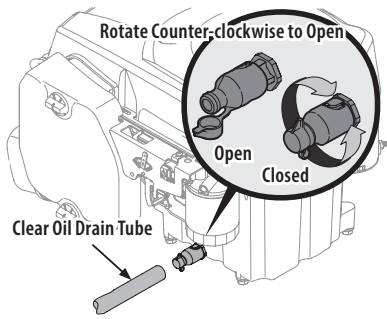

Figure 35
4. Open the protective cap on the end of the oil drain valve to expose the drain port (Figure 35 on page 26).